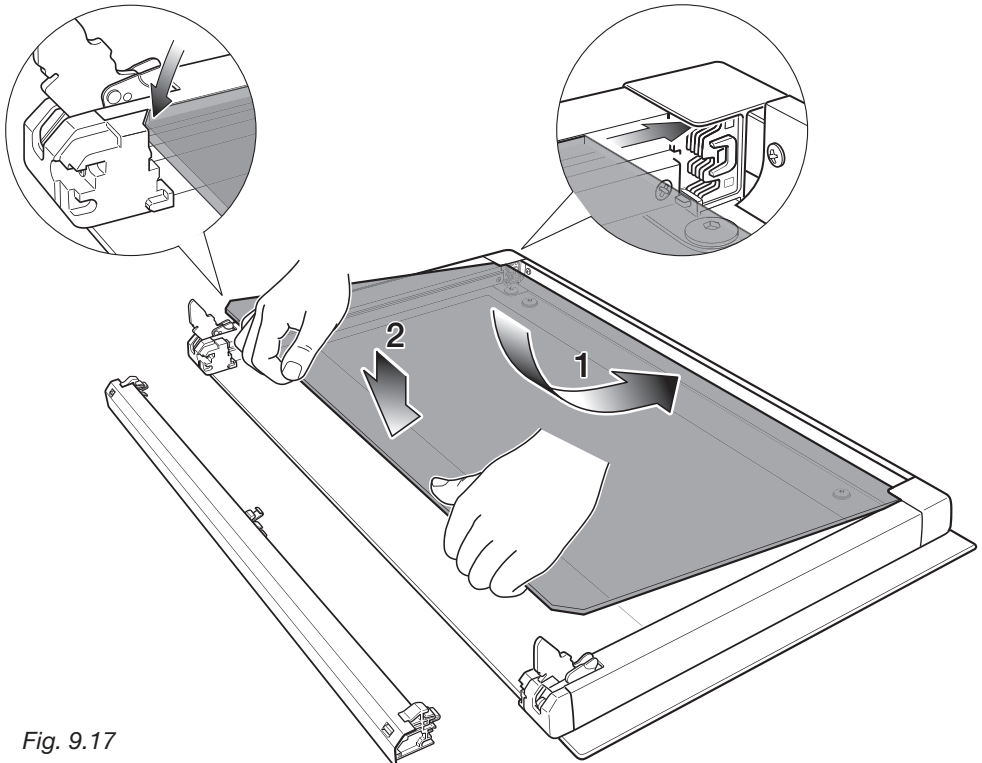

Fig. 9.17
1. Insert the inner glass pane in the uppermost pair of grooves and push it slightly (arrow 1 in figure 9.17).
2. Gently lower into place (arrow 2 in figure 9.17).